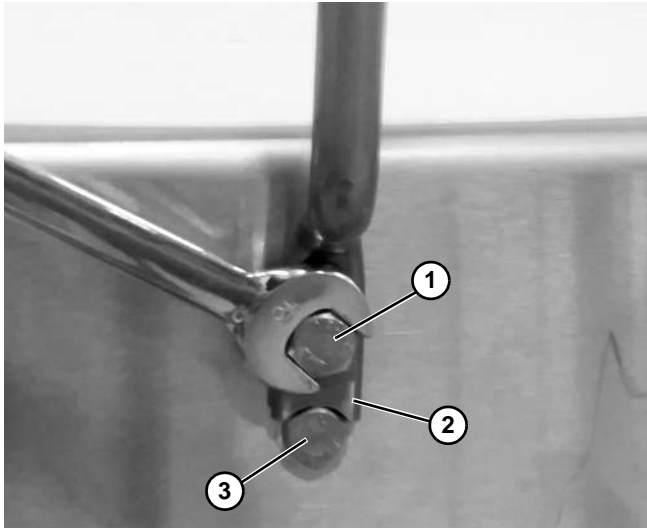

Figure 26
1. Remove the top screw (**Figure 26, item 1**).
2. Install the guide post (**Figure 26, item 2**) resting on lower screw (**Figure 26, item 2**). Install top screw (provided with the guide post) and tighten.